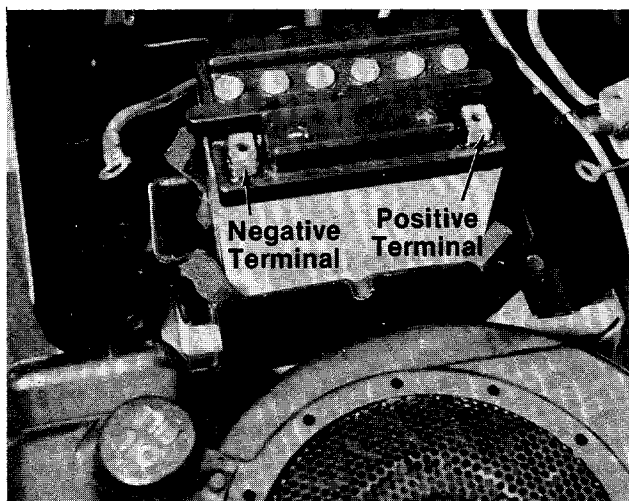

FIGURE 11.
- ← 11. Place the battery in the rider so that the positive terminal is facing the **left** side of the unit. See figure 11.